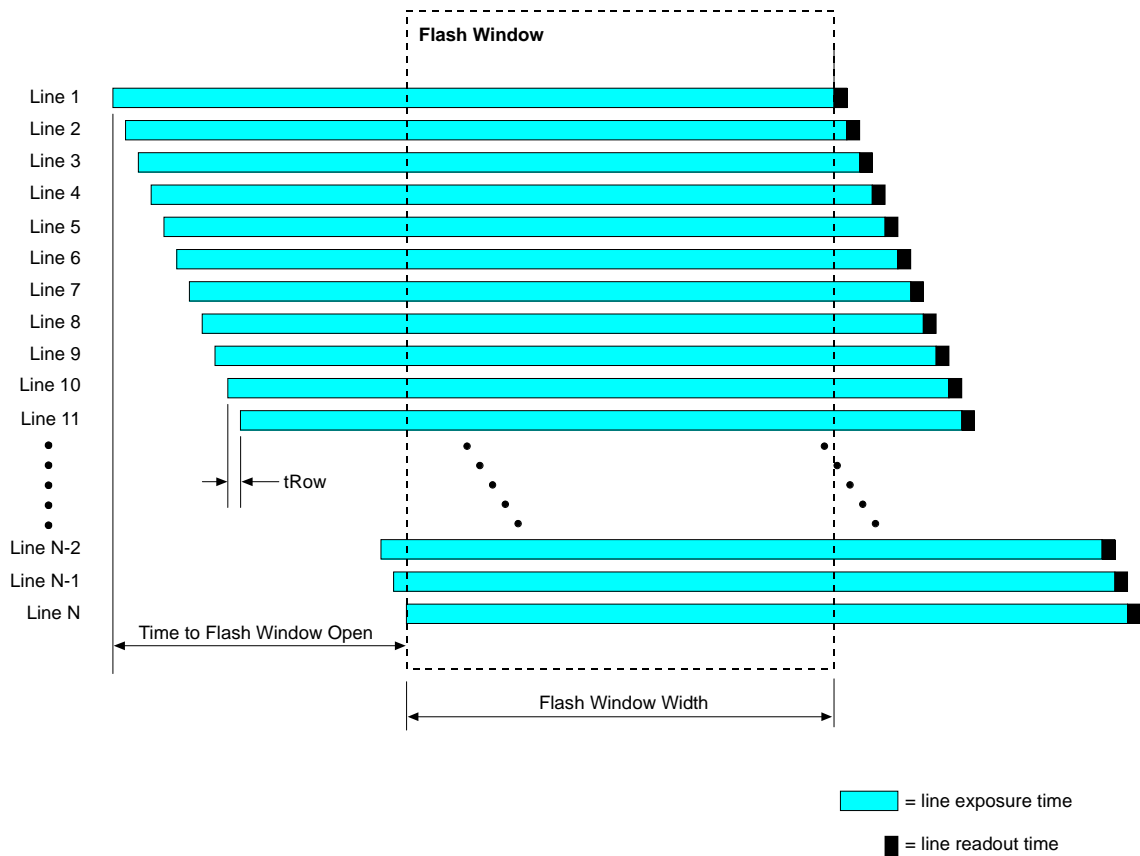
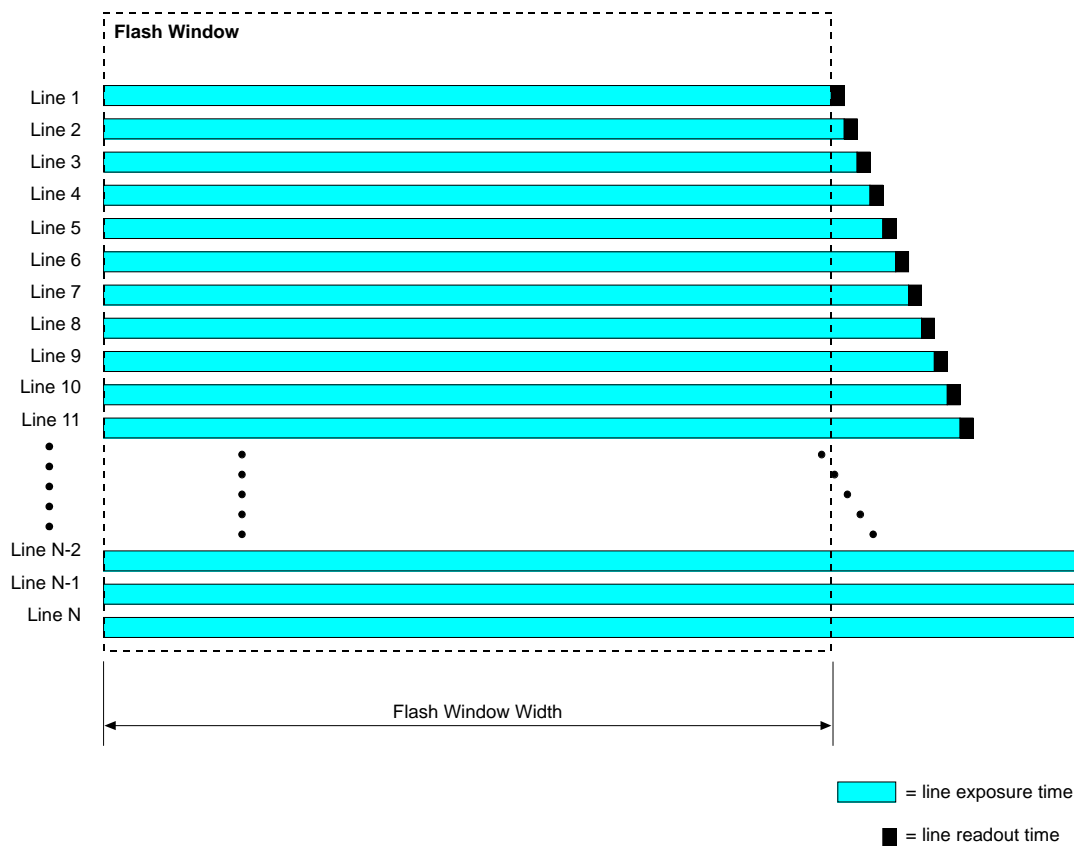

Fig. 52: Flash Window for Rolling Shutter in the ERS Mode
Fig. 53: Flash Window for Rolling Shutter in the Global Reset Release Mode
- In global reset release mode the flash window width extends over the entire exposure time of a line in the sensor. In electronic rolling shutter mode, however, the flash window width can only extend over part of exposure time of a sensor's line (compare Figure 53 and Figure 52). Therefore, at a given (high) frame rate, the global reset release mode allows for longer useful exposure times.
Figure 52 illustrates the flash window for the electronic rolling shutter mode.
Figure 53 illustrates the flash window for the global reset release mode.